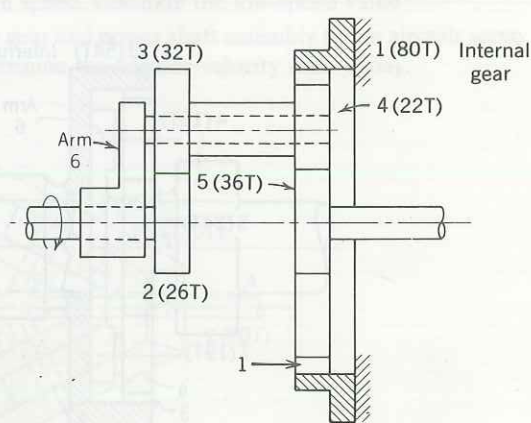

FIGURE 7.41
7.26. In the planetary reduction unit shown in Fig. 7.41, gear 2 turns at 300 rpm in the direction indicated. Determine the speed and direction of rotation of gear 5.
- 7.38. For the planetary gear train shown in Fig. 7.41, calculate the maximum number of compound planets that can be used.